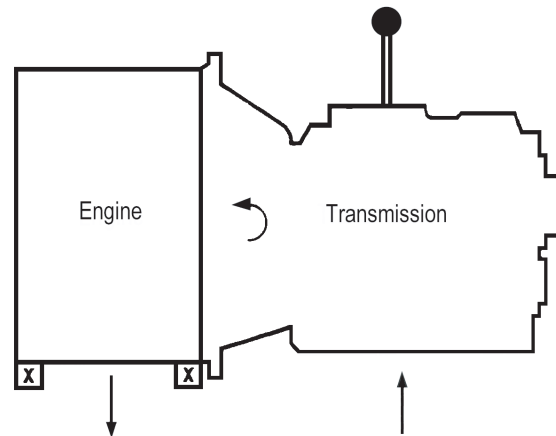
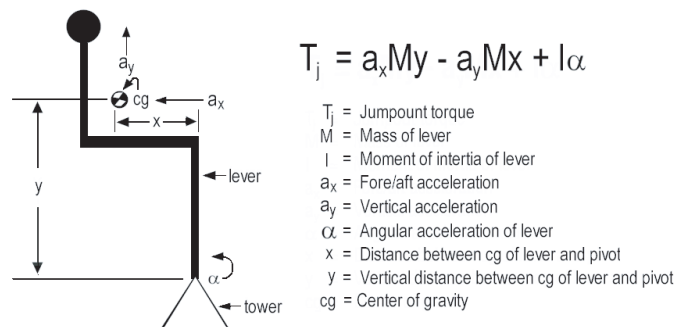

Figure 1
Figure 2
Shift lever jumpout is forced by the inertial effects of excessive road-induced vibration in the drivetrain. This road-induced shock causes the engine/transmission to pitch on its mounts as shown in Figure 1. This pitching occurs at the natural frequency of the engine/transmission/mount system, usually between 7 and 10 Hz. This pitching induces high vertical, fore/aft, and rotational accelerations on the transmission, and in particular, the shift lever. The shift lever then develops an inertial torque about its pivot, as determined by the sum of the inertial torques, as shown in Figure 2. Note that a rearward lever offset adds to the jumpout torque, whereas a forward offset reduces the total jumpout torque.
1. Design shift lever offsets forward of the shift lever pivot point. As Figure 2 shows, when the lever center of gravity is forward of the shift tower, the inertial torque due to the vertical acceleration from road-induced vibration will counteract the dominating rotational acceleration, resulting in a much lower total jumpout torque about the pivot point. Design the shift lever location slightly behind the driver to capitalize on this beneficial effect.